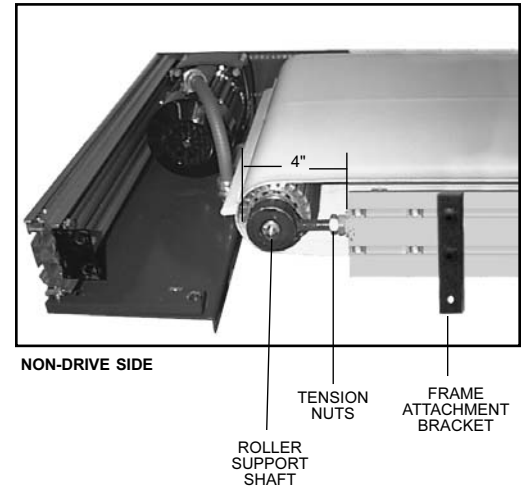

Figure 2
- 12) Remove plate on non-drive side (see **Figure 2**). **DO NOT REMOVE THE FRAME ATTACHMENT BRACKET!**